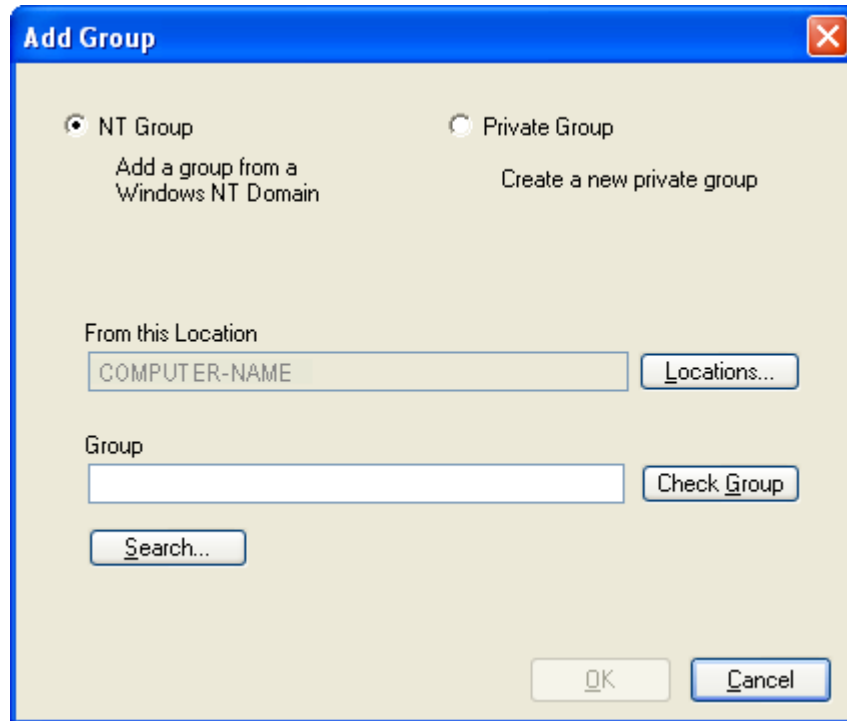

Figure 52 - Add Group Window (NT)
2. The **Add Group** window (Figure 52) appears. The **NT Group** option button is selected by default. This will allow the addition of an NT group from a Windows NT Domain.
2. The **Add Group** window (Figure 52) appears.